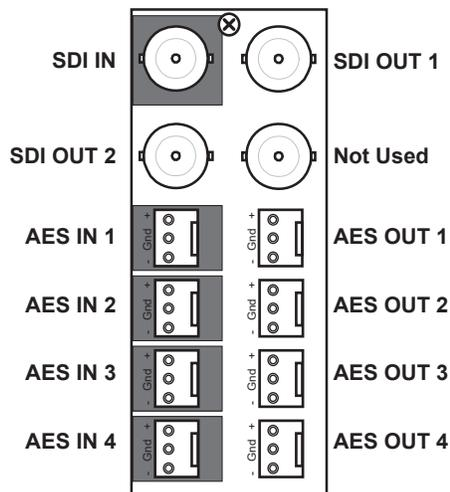
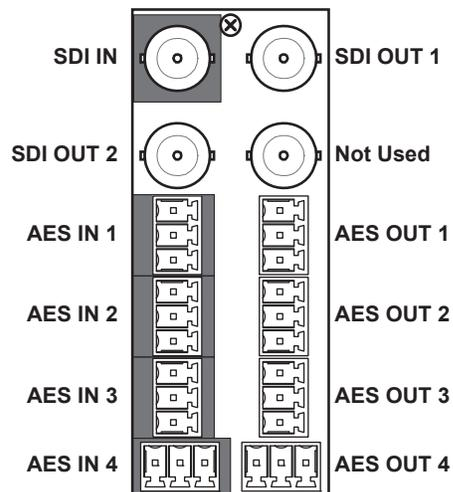

Figure 23 Cabling — 8320AR-062-02
Figure 24 Cabling — 8320AR-062-03
**Figure 23** illustrates the cabling designations for the 8320AR-062-02 rear module. **Figure 24** illustrates the cabling designations for the 8320AR-062-03 rear module.